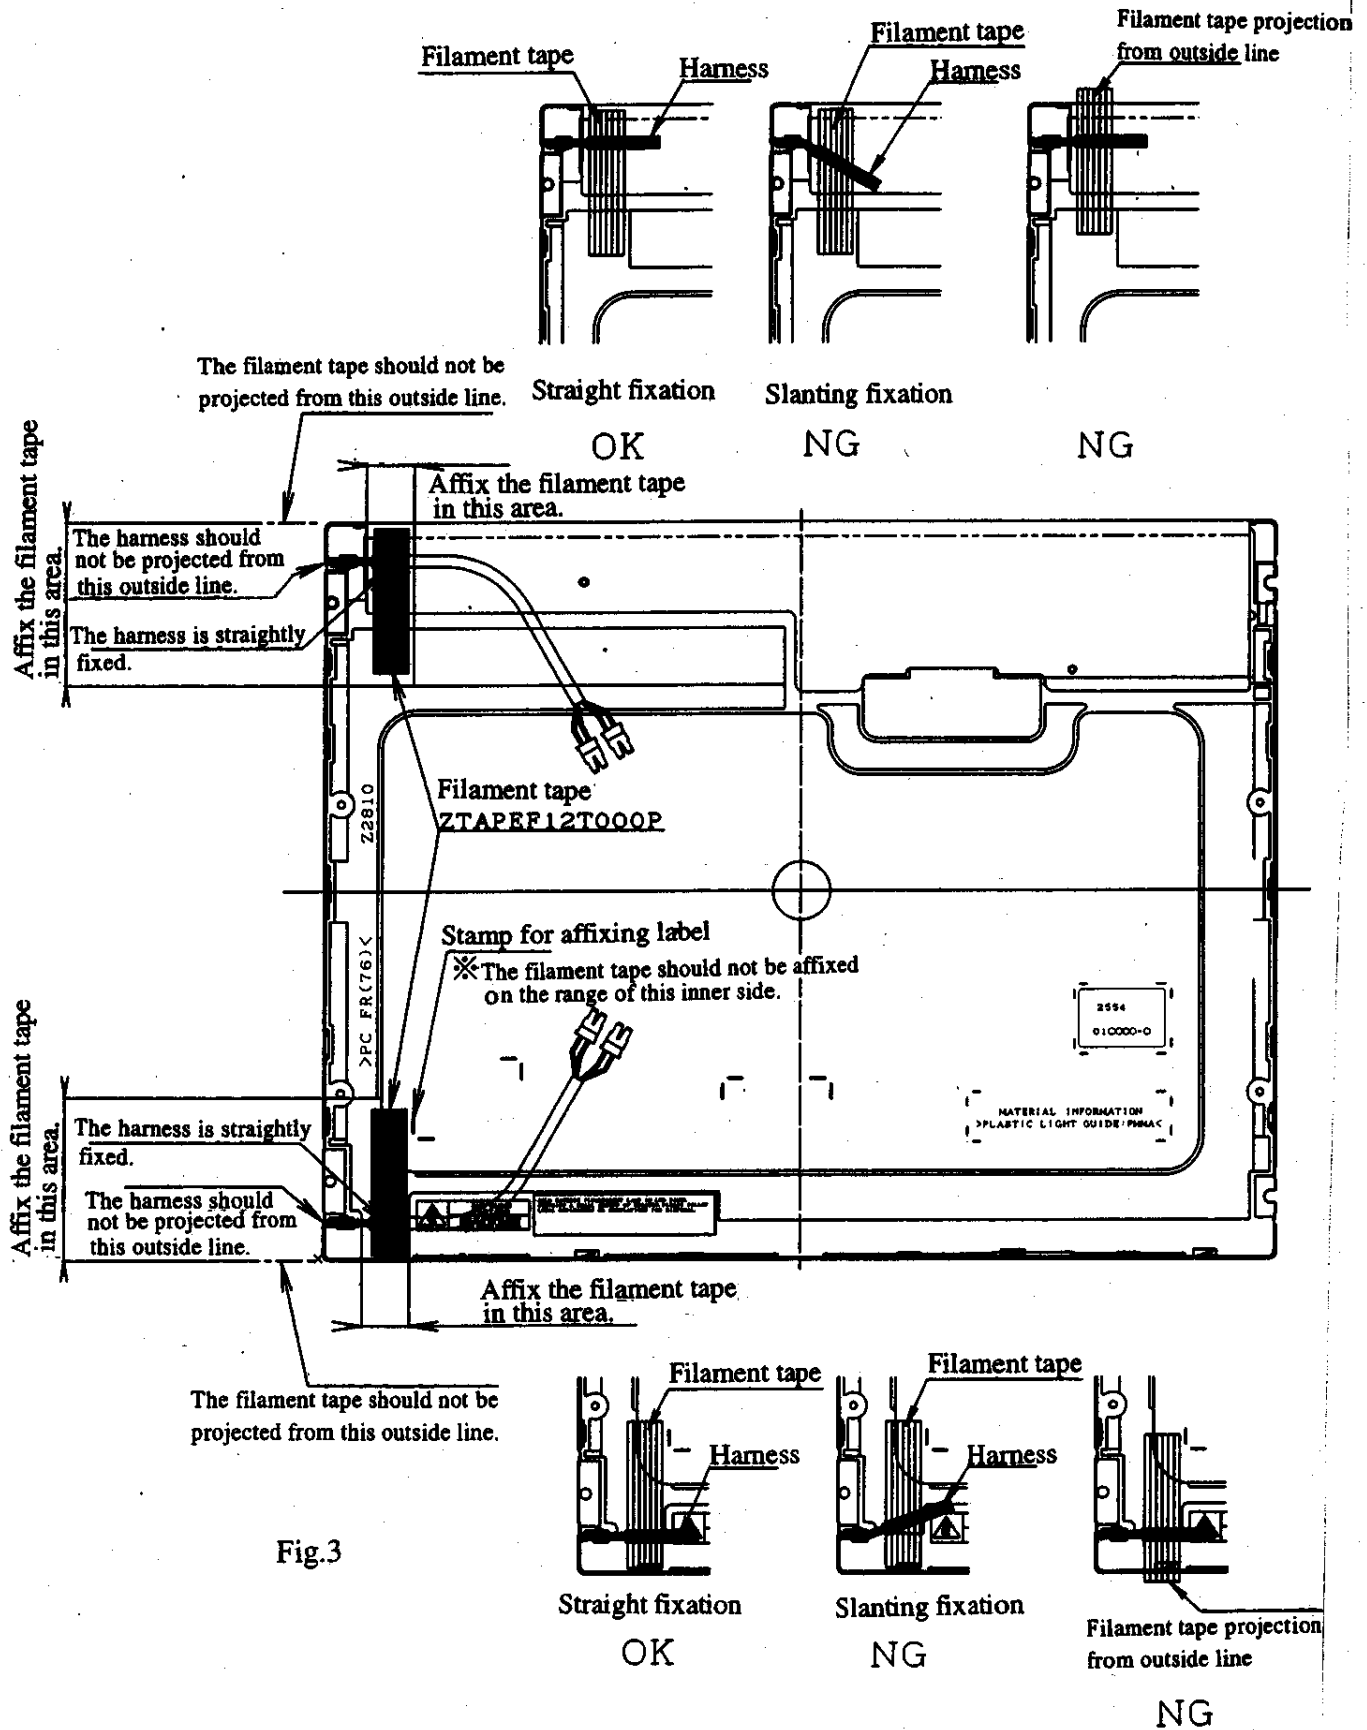

Fig.3
- ① Remove the filament tape for fixing harness (2 places).
- ② Remove the the harness from the slot of the module.
- ③ Remove the the screw for fixing lamp unit (silver screw at 2 places).
- ④ Extract the upper lamp unit.
- ⑤ Extract the lower lamp unit.
2) Attachment of lamp unit[Refer to fig.3]